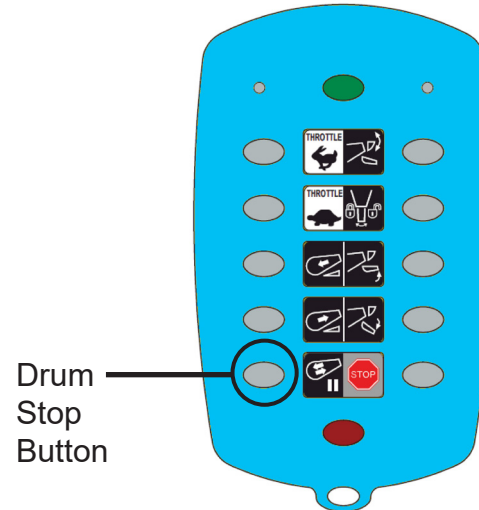

Figure 38
- To turn OFF Drum Stop Indicator on the OMNEX Wireless Transmitter, push the drum start/stop button as required (Figure 38).